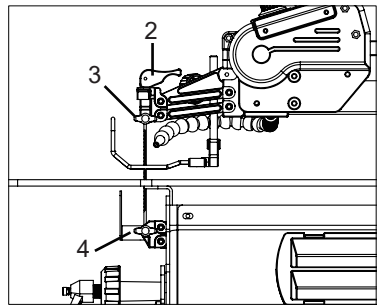

FIGURE 9
2. To remove the blade, rotate the Blade Tension Handle (Fig. 9, 2) upward to relieve tension.
3. Loosen the top blade locking knob (3), then Loosen the bottom blade locking knob (4).